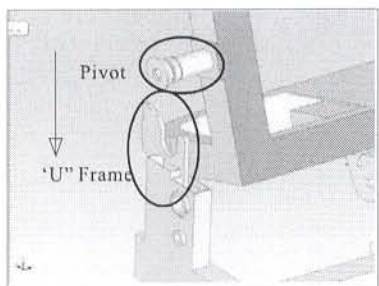

Fig.2
3. The discharge pump kit is made to fit onto the pedicure unit. (see fig 2)
- \* Align both pivots correctly so they rest perfectly onto the "U" pivot frame (Fig.2)
- \* Figure 2: Close-up view of pivot and "U" pivot frame.